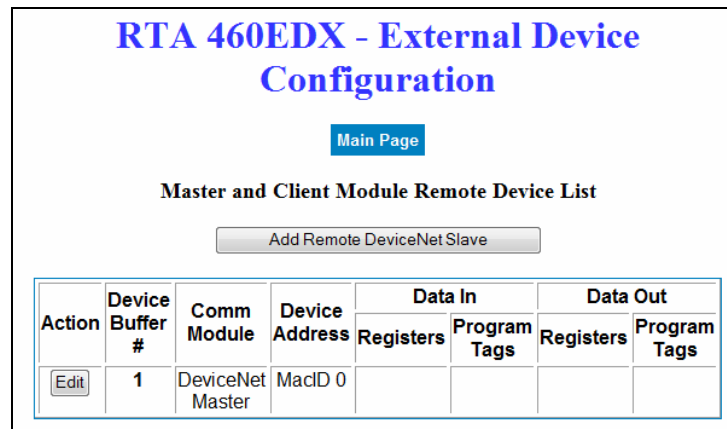

Figure 2-42 External Device Configuration screen
- Click on **Edit** next to the **Client Module Configuration**. The **External Device Configuration** screen displays. See Figure 2-42.